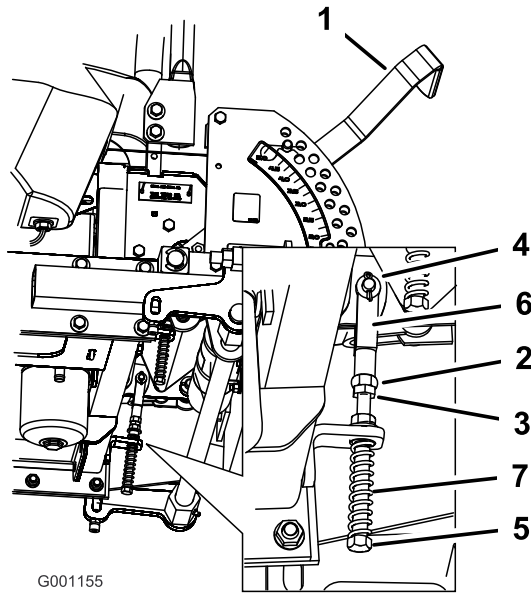

Figure 93
8. If adjustment is needed, loosen the nut and jam nut against the yoke (Figure 93).
- While applying slight rearward pressure on the motion-control lever, turn the head of the adjustment bolt in the appropriate direction until the control lever is centered in the NEUTRAL-LOCK position (Figure 93).
- Tighten the nut and jam nut (Figure 93).